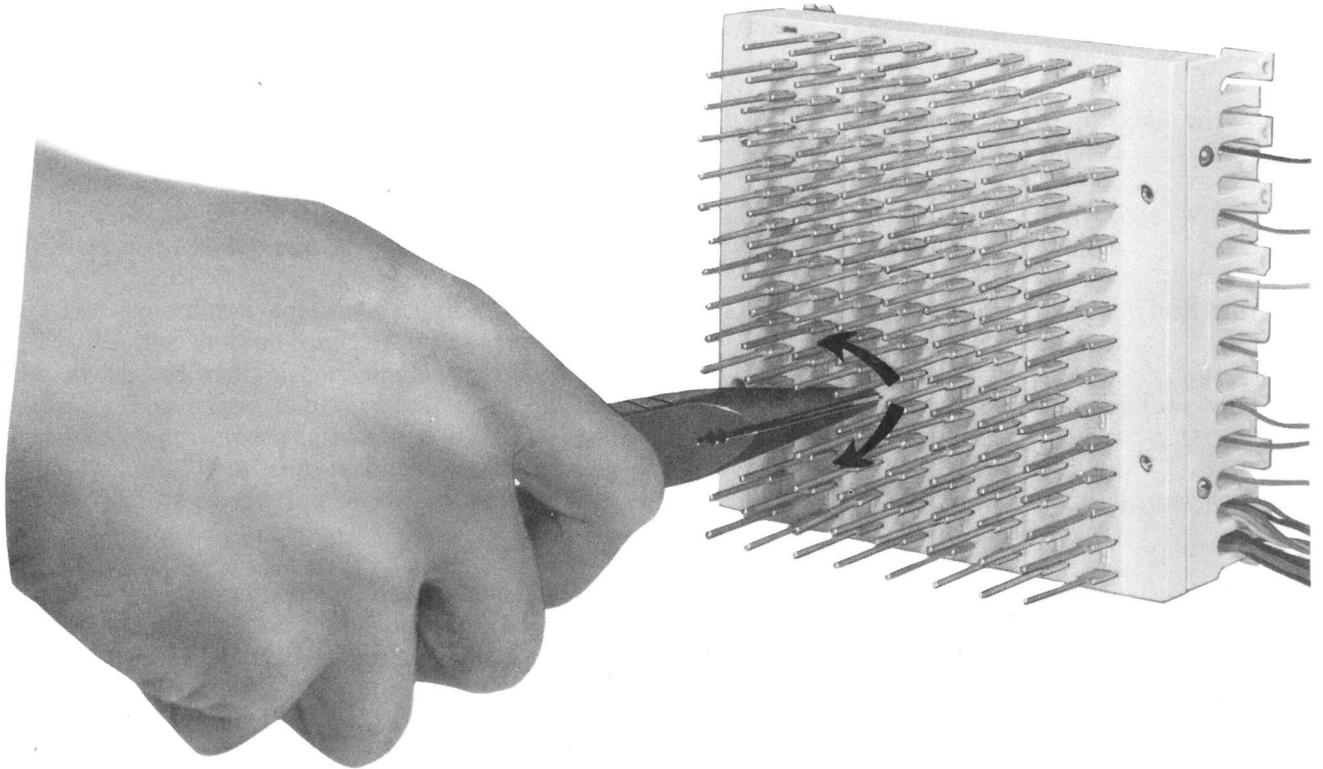

Fig. 2—Breaking Terminal From Block
- (b) Using the B long-nose pliers, grasp the wire-wrap portion of the terminal as near the block as possible and carefully twist the terminal until it breaks (Fig. 2).